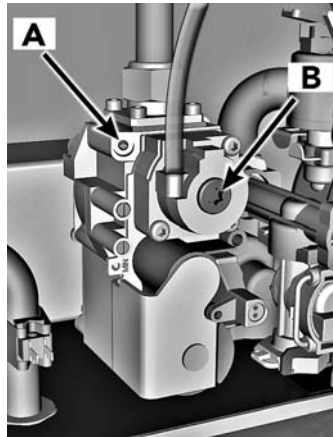

fig. 35 - Gas valve
3. Now adjust the **Throttle setting** (fig. 35 - screw **A**) until the CO2 is at the correct **SETTING LEVEL** (see table 4), confirm that the CO/CO2 ratio is within limits.
2. Now adjust the **offset pressure setting** (fig. 35 - cup **B**) until the CO2 is at the correct **SETTING LEVEL** (see table 5), confirm that the CO/CO2 ratio is within limits.